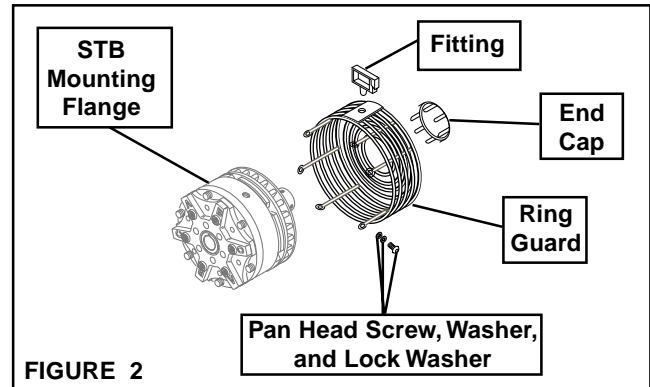

FIGURE 2
1. Align the mounting holes of the Ring Guard with the six tapped holes on the STB Mounting Flange (See Figure 2).
2. Using the six .190-24 X 3/8 Phillips Head Pan Screws, Washers, and Internal Tooth Lock Washers, secure the Ring Guard to the STB (See Figure 2).
3. Place the End Cap onto the Ring Guard and secure it in place by bending its tabs around the Ring Guard (See Figure 2).